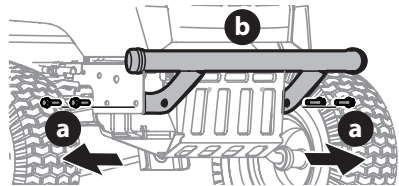

Figure 56
1. Remove the four hex screws (a) securing the front bumper in place (Figure 56).
2. The front bumper (b) may now be removed (Figure 56).